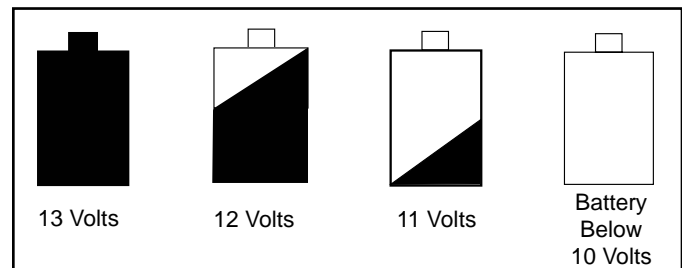

Figure 12.3
- A battery icon appears on your wall control to let you know you are now operating on battery power. **Figure 12.3**